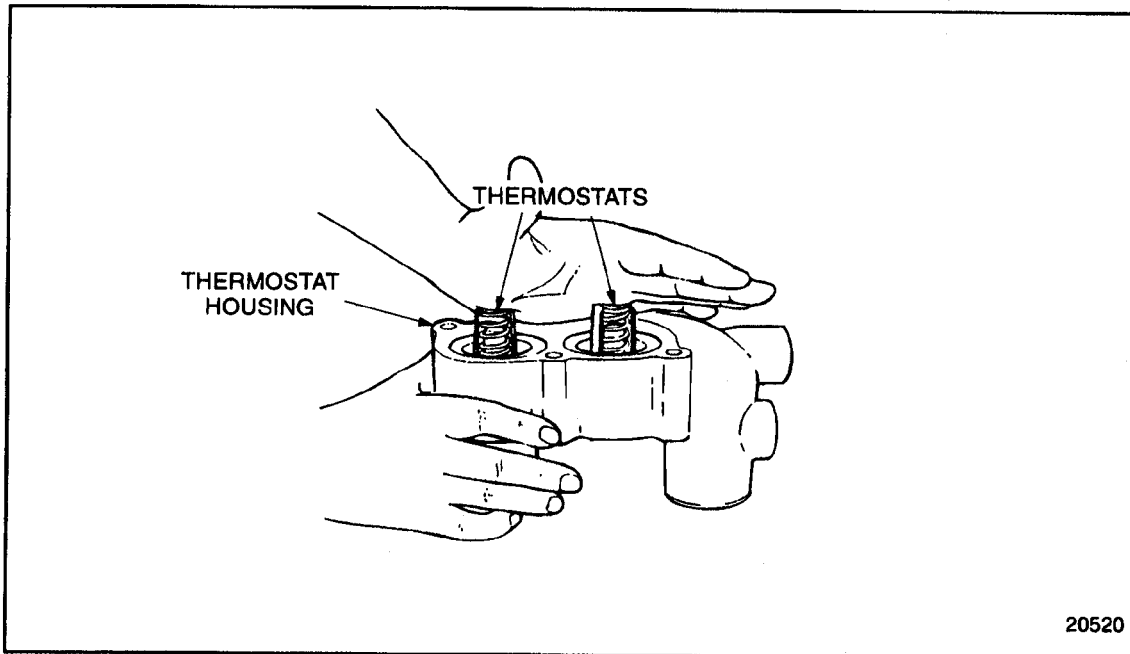

Figure 4-79 Seating Thermostats
8. Press down on the thermostats to seat them. See Figure 4-79.